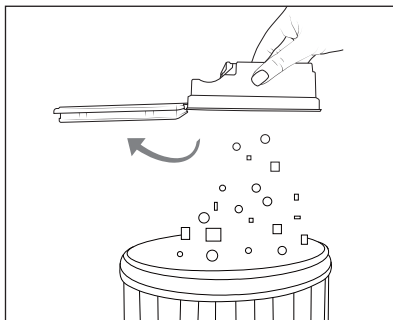

Fig. 8
- 3) Empty the contents of the dust container **12** into a waste container (see Fig. 8).